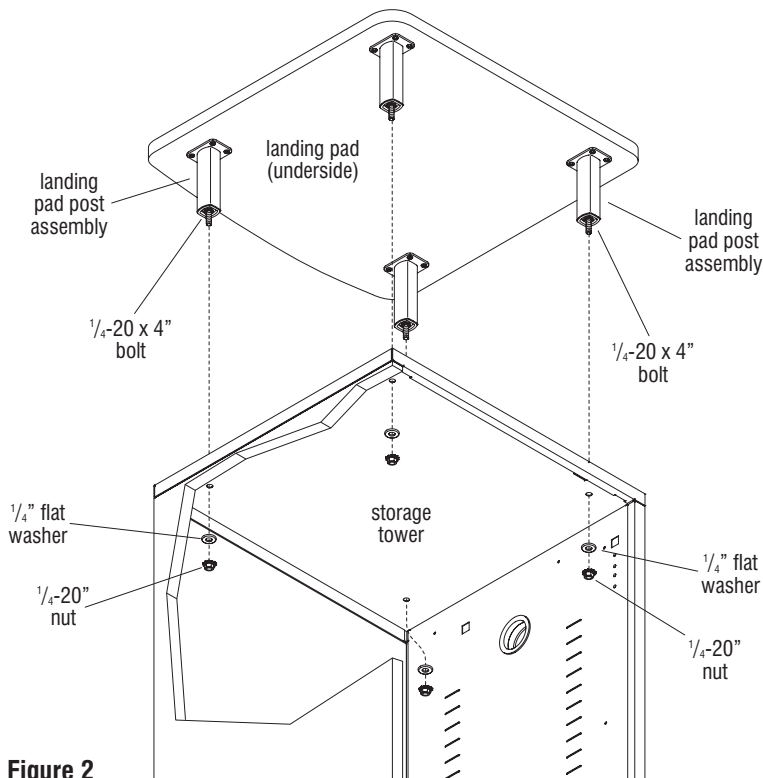

Figure 2
4. Carefully rotate the landing pad with post, bushing and bolt assemblies onto the top of the storage tower, such that the bolts insert down through the four mounting holes in the top of the storage tower (Figure 2).
5. From inside the tower, locate the 1/4-20 bolts inserted through the top, place a 1/4" washer and 1/4-20 nut onto each bolt. Tighten the nuts to secure the landing pad to the storage tower top (Figure 2).